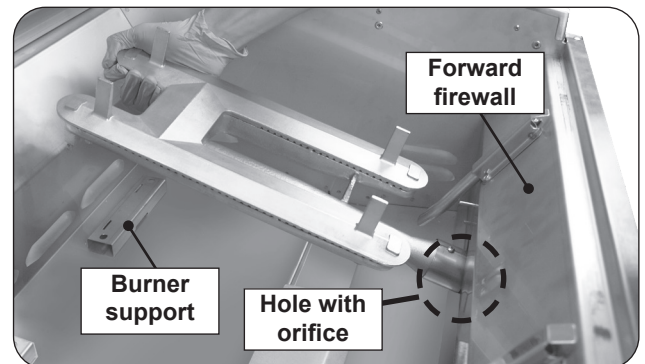

Fig. 49-3 Remove main burner
3. Carefully lift the burner from the burner support and out from the hole in the forward fire wall. See Fig. 49-3.